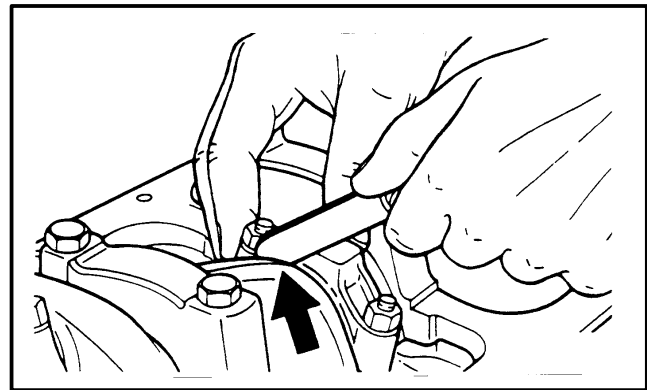

FIGURE 23. MEASURE THE SIDE CLEARANCE, CONNECTING RODS
- b. Measure the clearance between the caps for the connecting rods and the crankshaft. See FIGURE 23.